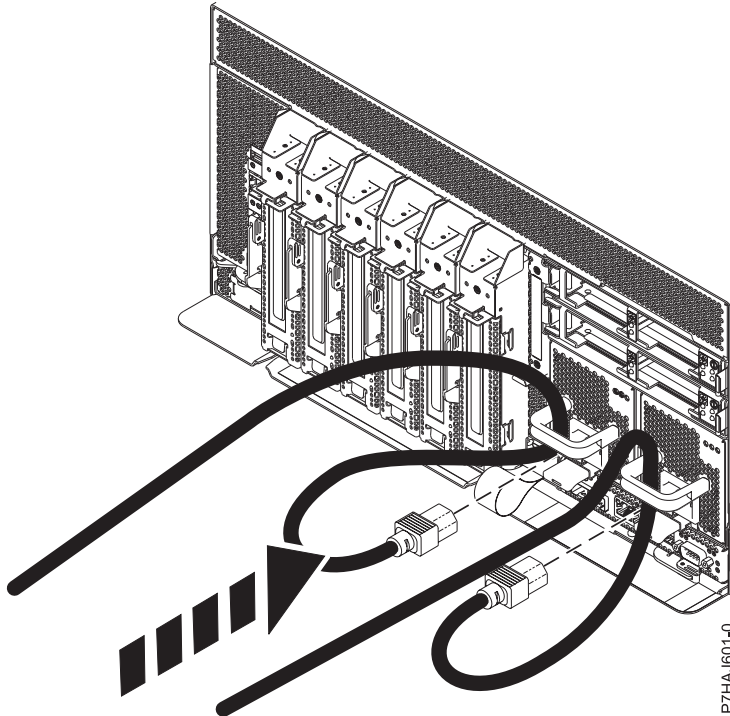

Figure 14. Connecting the power cords
2. Reconnect the power cord to the system unit as shown in Figure 14 on page 28. Ensure that the cords are threaded through the handles.